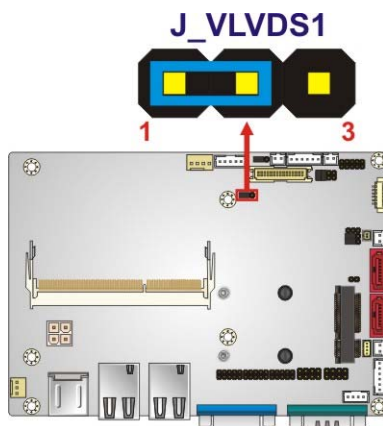

Figure 4-7: LVDS Voltage Selection Jumper Location
- Jumper Location:** See Figure 4-7